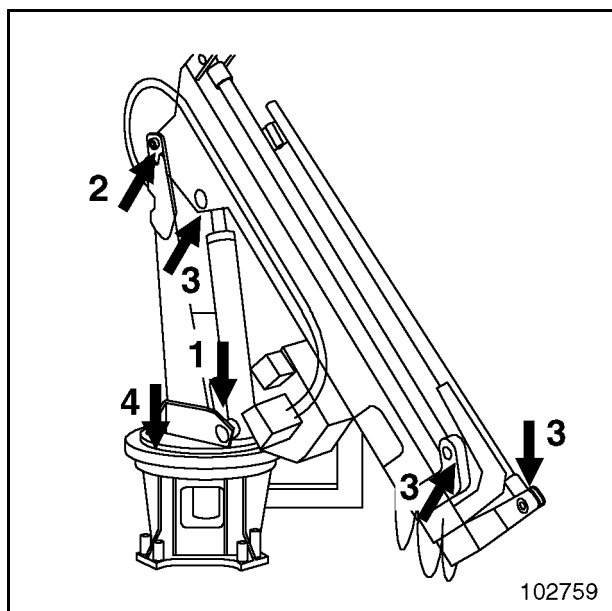

Fig. 3-130:
- Lubricate all bearings regularly and as required, and spray swing ring with a graphite spray (Fig. 3-130:)